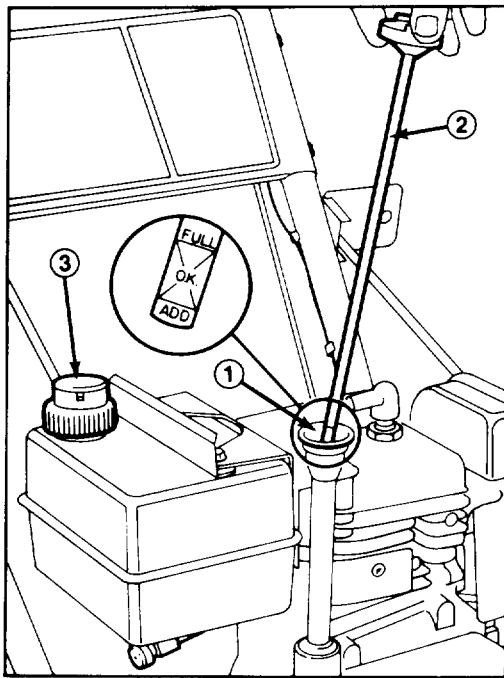

Figure 12
3. Remove dipstick from crankcase (Fig. 12).
4. Slowly, pour 21 ounces (0.621 l) of SAE 5W30 or SAE 10 oil into the filler hole (Fig. 12). The engine uses only high-quality detergent oil having the American Petroleum Institute —API — "service classification" SC, SD or SE.
1. Clean area around the fuel tank cap. Remove cap from fuel tank and fill tank to within 1/2 inch (13 mm) from the top with gasoline. Reinstall fuel tank cap (Fig. 12).